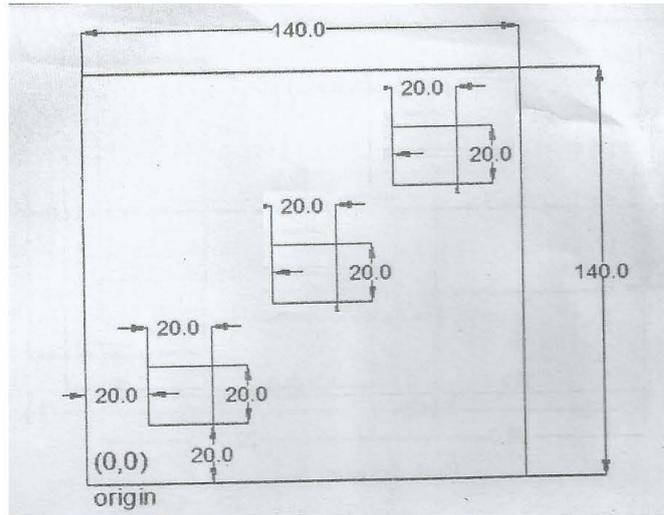

FIGURE 1(Q 4 OR b)
- (b) Write a subroutine CNC part programme as shown in figure 1 to milled three (3) square pocket of 20x20mm for the given plate of 140x140mm and 6mm thickness. 04